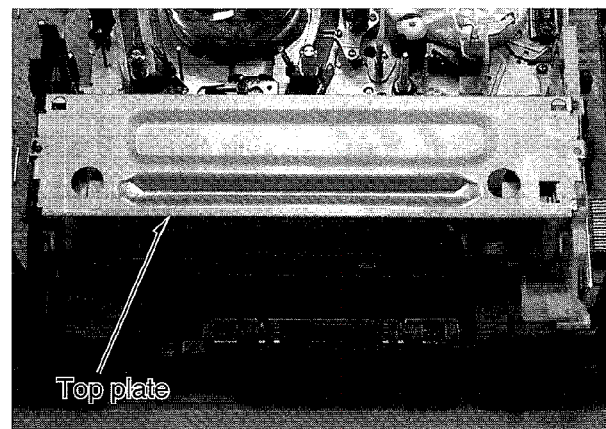

Fig. F8
- ※ Fix Top plate by tightening screw when the tabs of Left and Right side plate broke (Fig. F8)